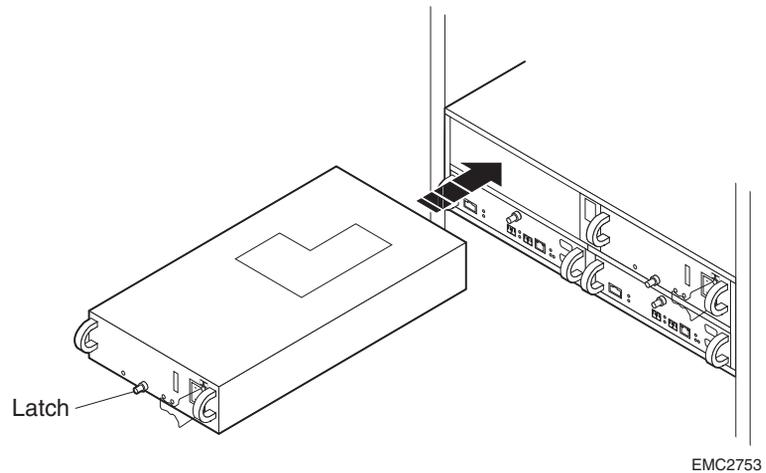

Figure 3-16 Installing a Power/Cooling Module
1. *Gently* insert the new module into the enclosure, as shown in Figure 3-16. Be sure the module is completely seated.